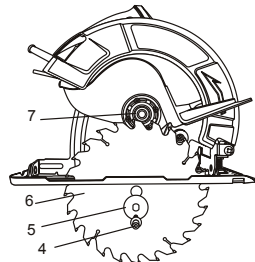

Fig. 3
Insert the 6mm hex key provided into the blade screw (4) (Fig. 3).